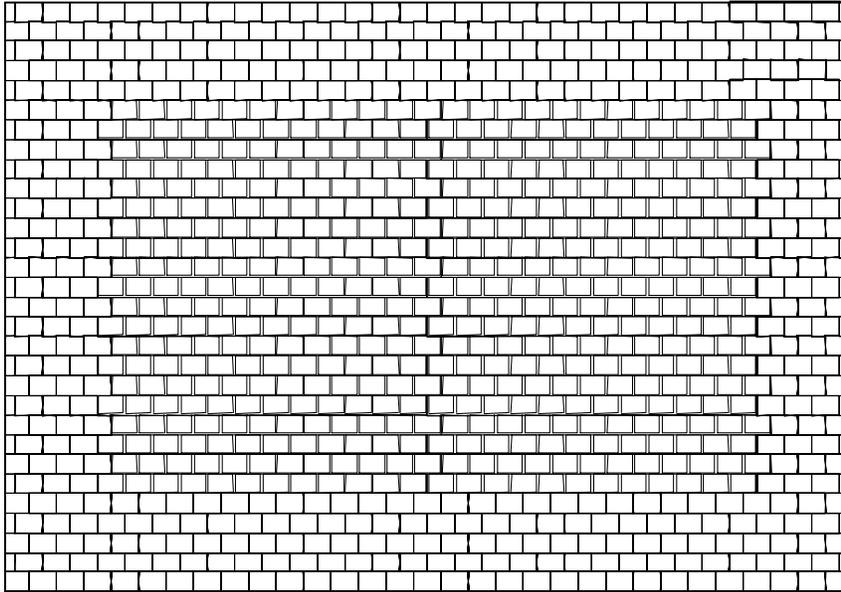

Figure 17
- 6.1 Install asphalt shingles above the PV shingle array in the conventional manner (see figure 17).